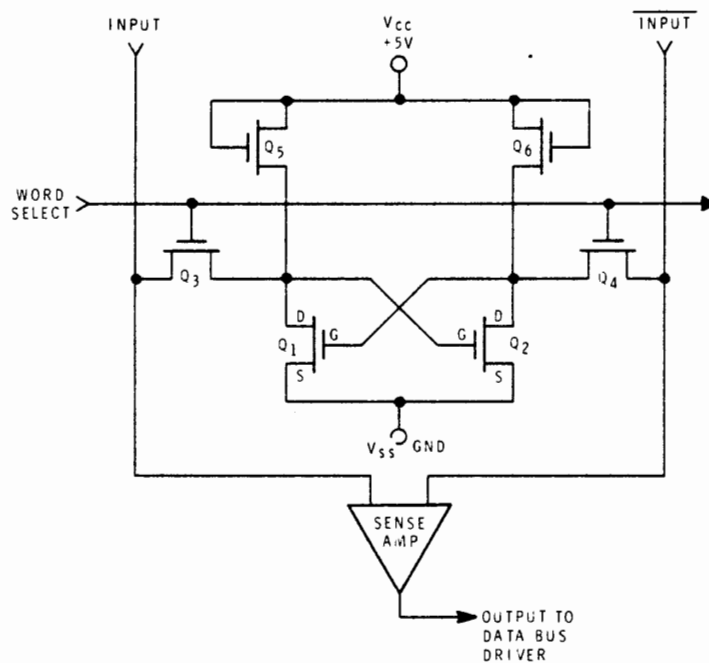

Figure 7-11
The basic storage cell for an MOS type static RAM is shown in Figure 7-11. Keep in mind that this cell stores a single bit of data. There may be 1024 of these along with address decoders and bus drivers in a single IC.
18. How many bits of data can be stored in the circuit shown in Figure 7-11?